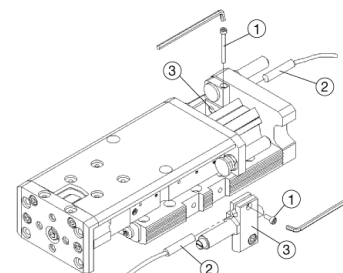

fig 3
### Adjustment of limit switch (ES), fig 3
1. Loosen clamping screw (1).
2. Slide limit switch (2) from rear into stop block guide (3) up as far as stop.
3. Retighten clamping screw (1).
4. Connect limit switch (2) to electricity supply.